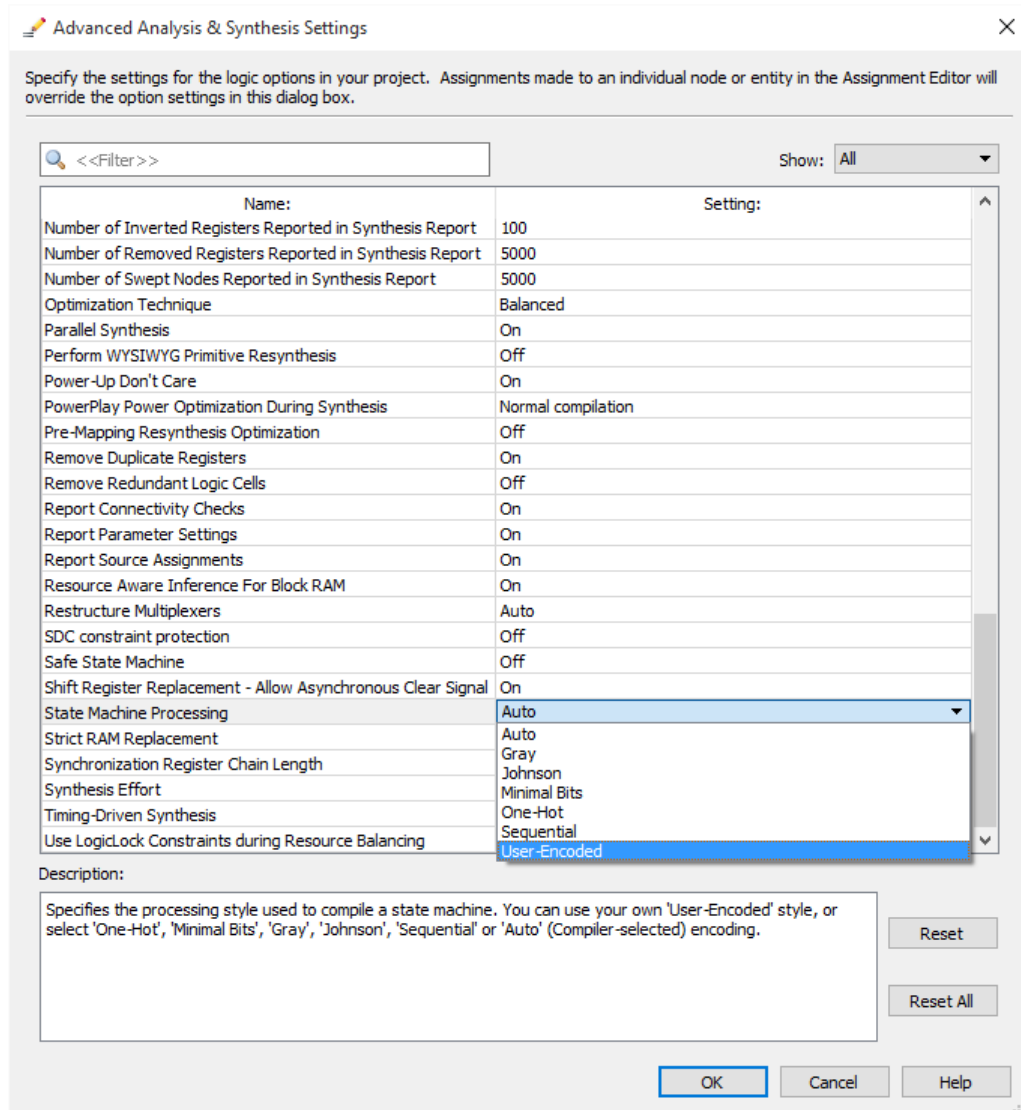

Figure 4: Specifying the state assignment method in Quartus.
3. Before compiling your code it is necessary to explicitly tell the Synthesis tool in Quartus that you wish to have the finite state machine implemented using the state assignment specified in your Verilog code. If you do not explicitly give this setting to Quartus, the Synthesis tool will automatically use a state assignment of its own choosing, and it will ignore the state codes specified in your Verilog code. To make this setting, choose **Assignments > Settings** in Quartus, and click on the **Compiler Settings** item on the left side of the window, then click on the **Advanced Setting (Synthesis)** button. As indicated in Figure 4, change the parameter **State Machine Processing** to the setting **User-Encoded**.